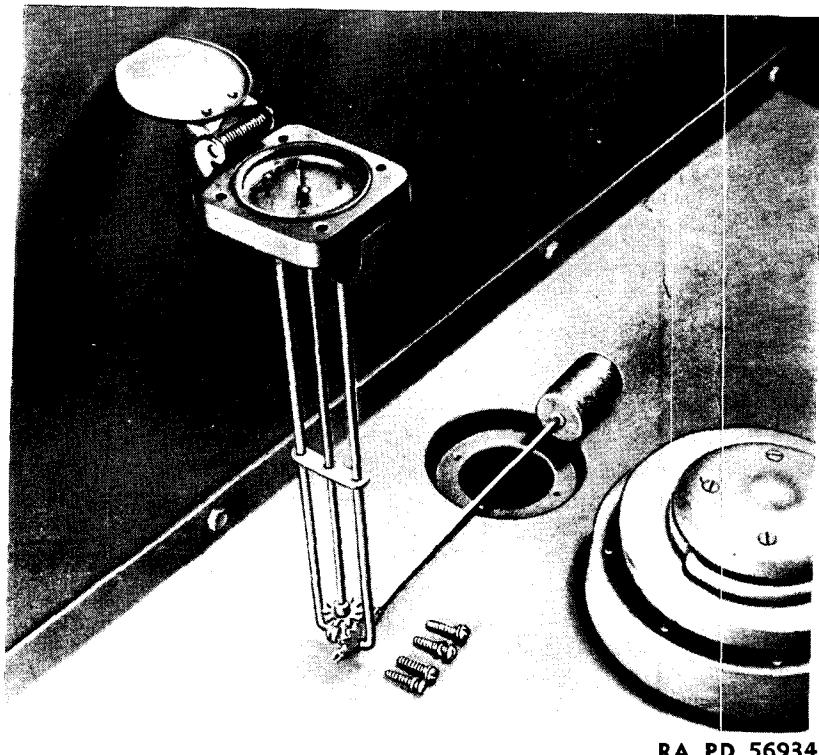

Figure 39—Fuel Gage—Mechanical Type
a. Construction. The fuel system consists of the fuel tank with a flame-proof filler cap and screen (fig. 38), and a mechanical, float-type fuel gage (fig. 39), the fuel pump, the carburetor, the air cleaner, the intake section of the manifold, the governor, the throttle box, linkage between governor and throttle box, a $\frac{5}{16}$ -inch fuel line (fig. 40), and a $\frac{1}{4}$ -inch drain line. The capacity of the fuel tank is 26 gallons.